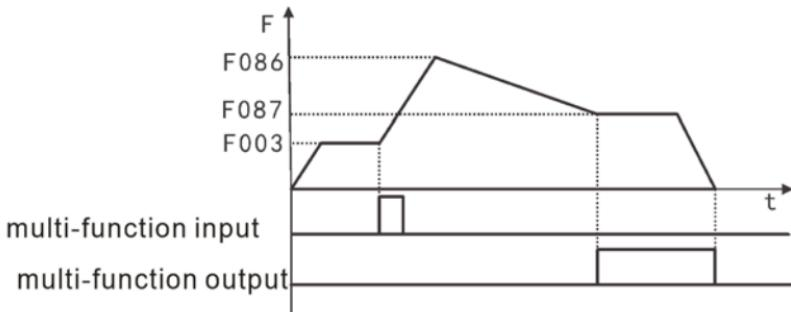

Figure 6-12 Daft Actuation Curve
- 4: Draft is a special parameter used to realize a constant speed for taking up and paying off of curl cord, i.e. constant linear speed can be realized within certain accuracy, as shown in Figure 6-12.